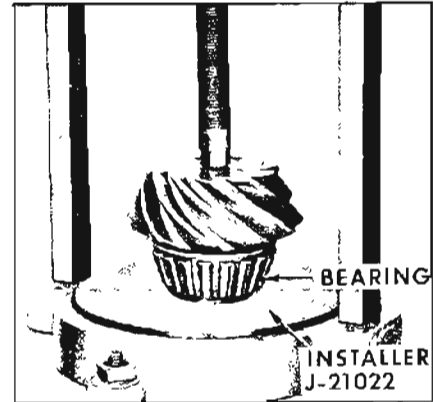

Figure 6-23—Installing Rear Pinion Bearing
13. Position correct shim on pinion shaft and install rear pinion bearing. Use Installer J-21022 as shown in Figure 6-23.